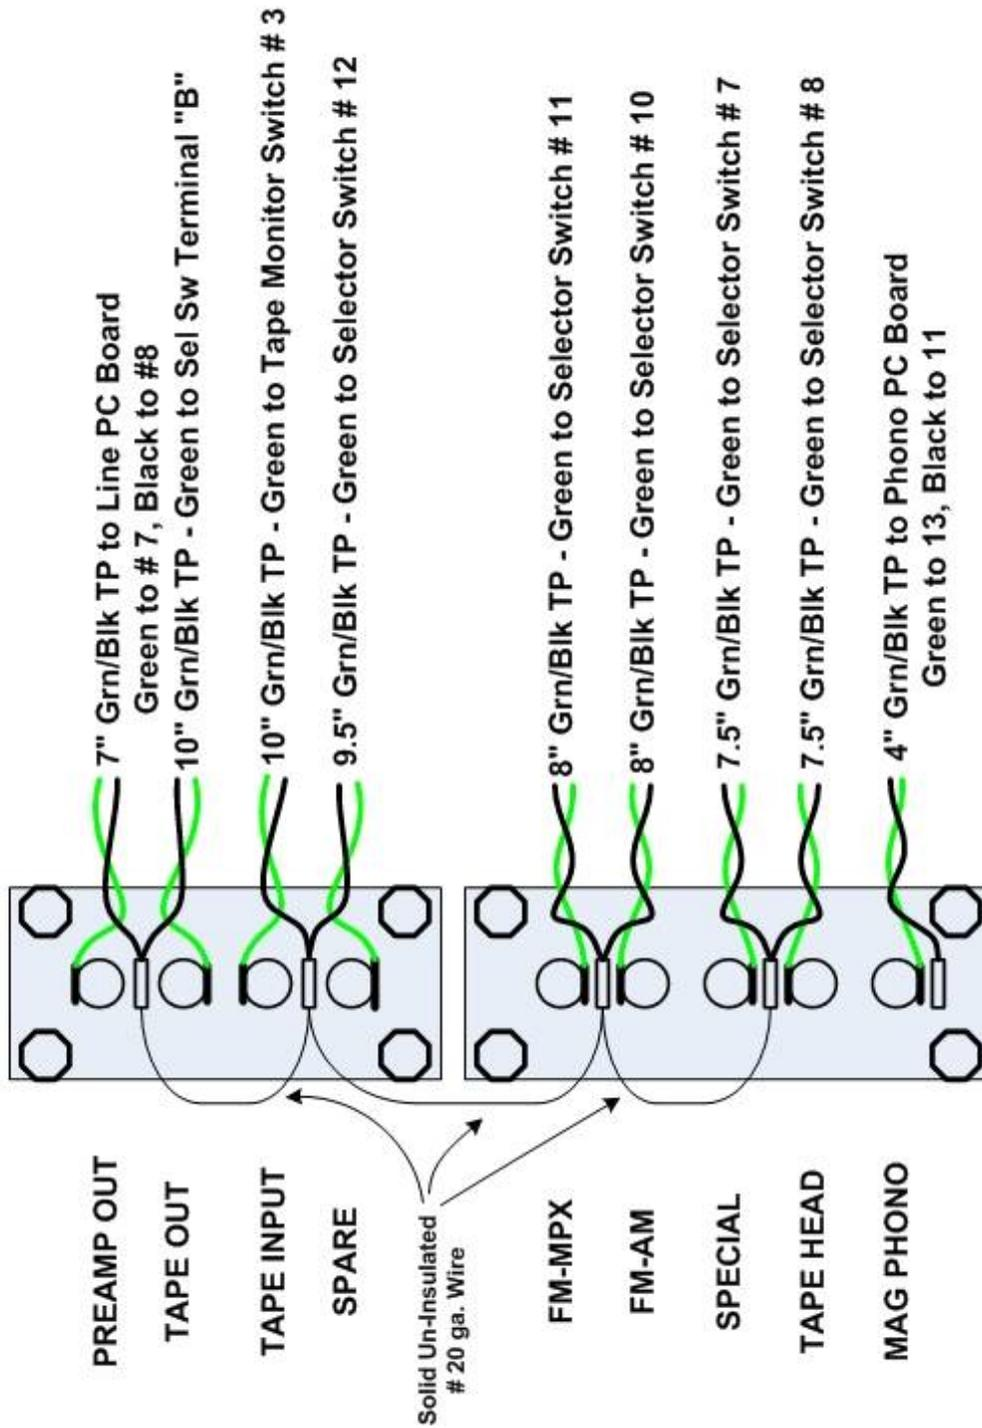

Figure 1B – Left Channel Input Output Connector Wiring Diagram
To assist you with this section we have prepared two figures that are nearly identical 1a & 1b. Figure 1a describes the connections for the top strip (Left Channel) and Figure 1b describes the connections to the bottom strip (Right Channel).
We will begin with the bottom row – Right Channel and so now refer to Figure 1b. Prepare three sections of un-insulated 20ga solid wire and make the connections to the ground lugs as shown in Figure 1b. Note –
do not connect the MAG PHONO ground to the other grounds. Using the Red / Black twisted pair prepared above, install the 8 sections of twisted pairs (NOTE - You will not include the twisted pair connected to the MAG PHONO input - these wires have already been prepared under the Phono PC module section and will be connected later.) to the lengths indicated as shown in Figure 1b. The Black conductor of each TP should connect to the ground lugs (the same lug shared by the bare ground wires) while the Red lead should connect to the center (hot or signal) terminal. The other ends of the 8 twisted pairs will be connected later – for now just dress them out of the way.
1. Refer to Figure 1b. Locate the 11.5” Red-Black TP connected to the PREAMP OUT terminals. Connect the RED wire to line module PC-5, terminal # 14. Connect the Black wire to PC-5, terminal # 8. PC-5 is the pc board located immediately behind the Bass & Treble Controls.
3. At this time you will connect the remaining wires from the bottom (Right) I/O strip and therefore you should refer to Figure 1b. Most connect to the connector switch but not all. Except for the MAG PHONO twisted pair, you will be connecting only the Red (signal) wire at the end opposite the I/O strip. Therefore in the following steps, you should first untwist about $\frac{3}{4}$ ” of the twisted pair at the end opposite of the I/O strip. Next, strip $\frac{1}{4}$ ” of the insulation from the Red wire and solder tin. Take the remaining Black Wire (do not strip any insulation from it) and wrap it spirally around the Red in a coil like manner. The Black wire will not be connected at this end.